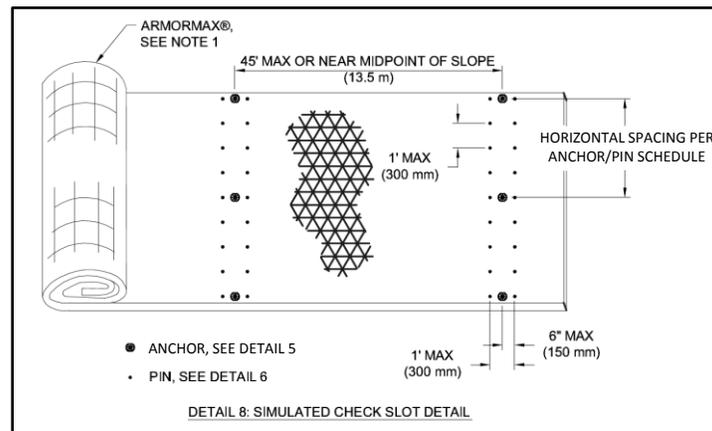

Figure 14: Simulated Check Slot
- For channel bank heights or channel bottom widths greater than 45 ft (13.7 m), install simulated check slots. This method includes placing two rows of pins 12 in (300 mm) apart on 12 in (300 mm) centers and one row of anchors between the rows of pins on 4 ft (1.2 m) centers at 45 ft (13.7 m) maximum intervals or across the midpoint of the slope for slope lengths less than 60 ft (18.2 m) (Figure 14).